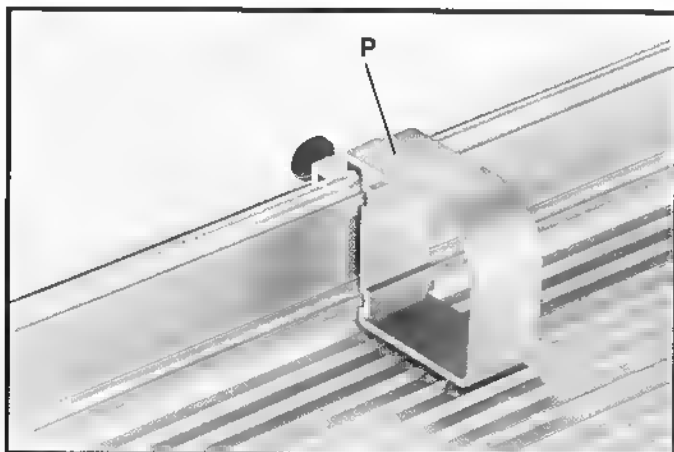

Fig. 28
8. A stock stop (P) Fig. 28, is provided for making repetitive cuts and is assembled to the fence of the table extension, as shown.